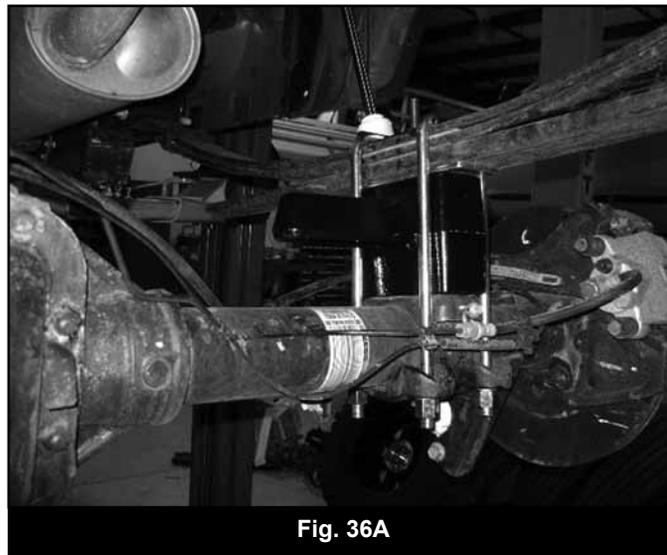

Fig. 36A
15. Raise the axle/block to the spring while aligning the center pin. Fasten the spring/block assembly with the provided u-bolts, high nuts and washers. Snug u-bolts, they will be torque with the weight of the vehicle on the springs. (Fig 36a)